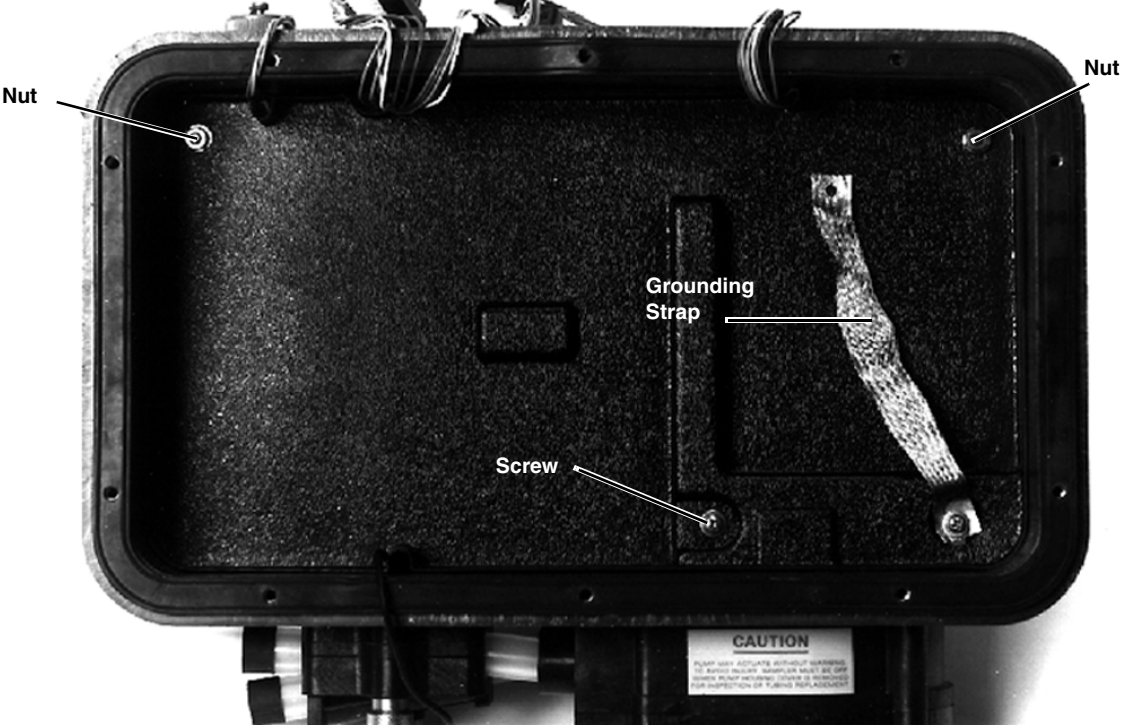

Figure 5-10 Control Box Tray Removal
2. Remove the two nuts, the screw, and the grounding strap indicated in Figure 5-10.